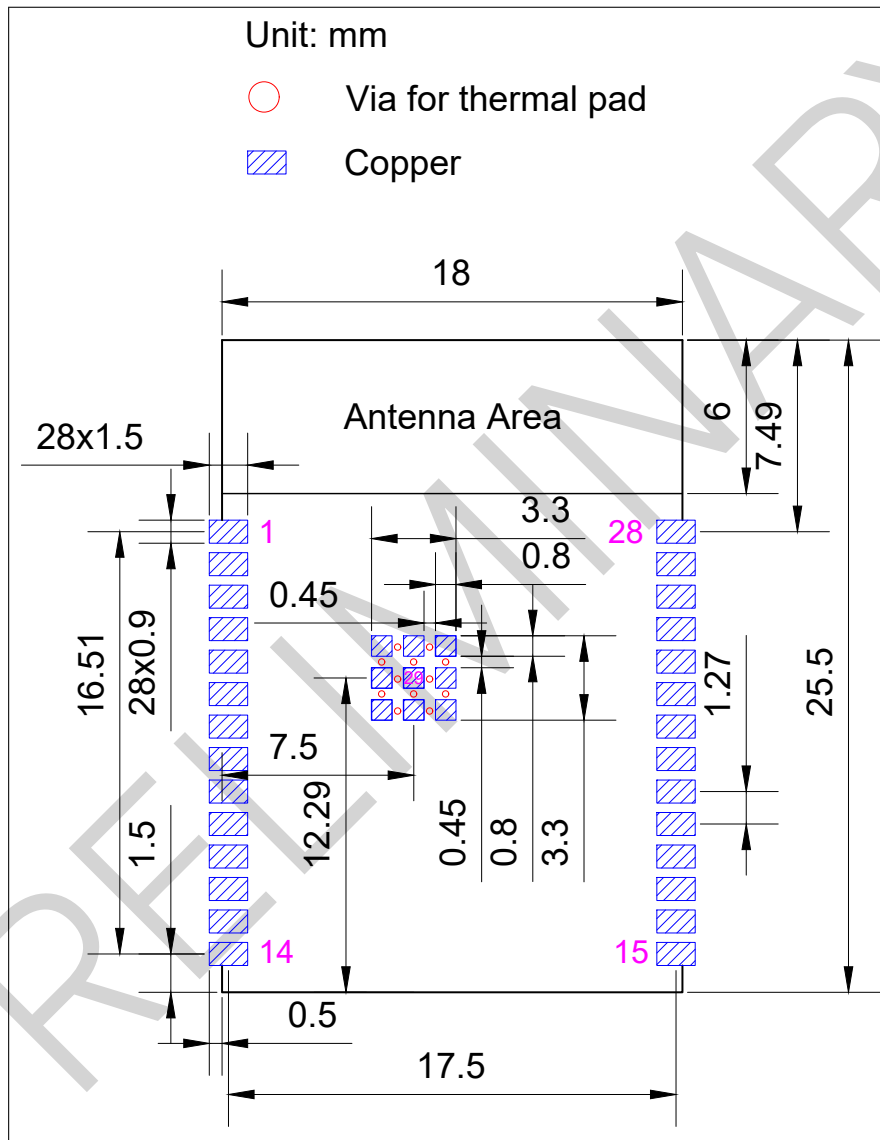

Figure 13: ESP32-C61-WROOM-1 Recommended PCB Land Pattern
- Figures for recommended PCB land patterns with all the dimensions needed for PCB design. See Figure 13 *ESP32-C61-WROOM-1 Recommended PCB Land Pattern* and Figure 14 *ESP32-C61-WROOM-1U Recommended PCB Land Pattern*.